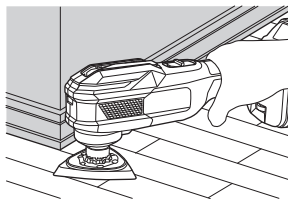

Fig. 16
- (1) Switch the unit on and use the dial to set the speed of the application tool. (**Fig. 16**)
- (2) Lightly place the application tool on the material and move the application tool back and forth at a pace where the movement isn't slowed. (**Fig. 16**)